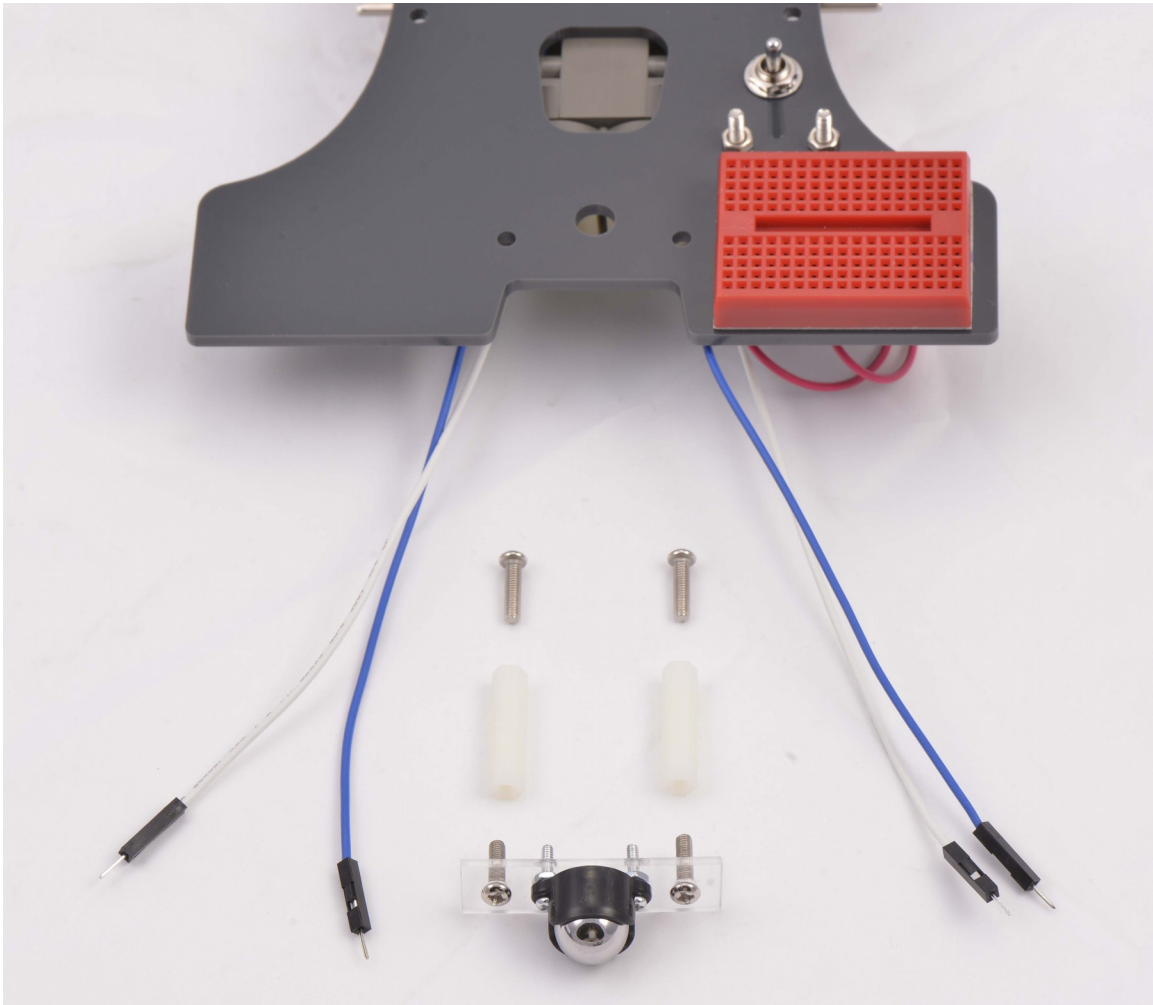

Figure 2.10
Locate two (2) 1 inch nylon spacers and four (4) 4-40 screws, and assemble them as shown in figure 2.10.